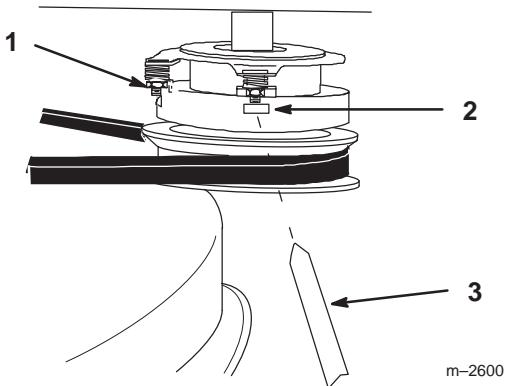

Figure 55
1. To adjust clutch, tighten or loosen lock nuts on flange studs (Fig. 55).
2. Check adjustment by inserting feeler gauge through slots next to studs (Fig. 55).